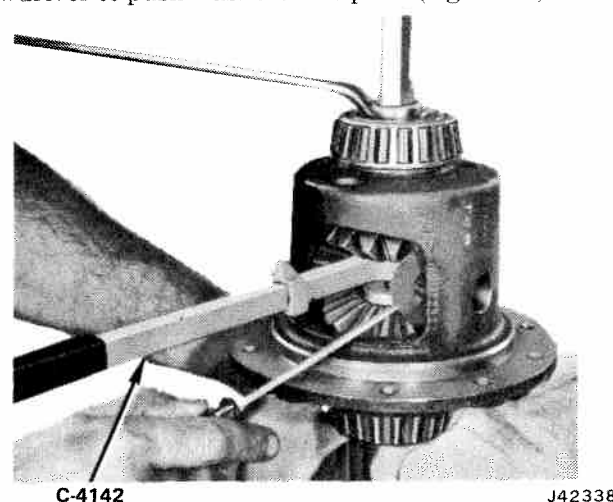

Fig. 10-50 Installing Pinion Mate Washers
(13) Pull on tool until handle hits gear. Remove pawl from between gear teeth, reposition handle and pawl. Repeat the same operation until holes of both pinion mate gears are lined up exactly with those of case.
(14) Prelubricate both sides of pinion mate spherical washers with specified lubricant.
(15) Apply torque to forcing screw to allow clearance to assemble spherical washers.
(16) Assemble washers into case. Use a very small screwdriver to push washers into place (fig. 10-50).